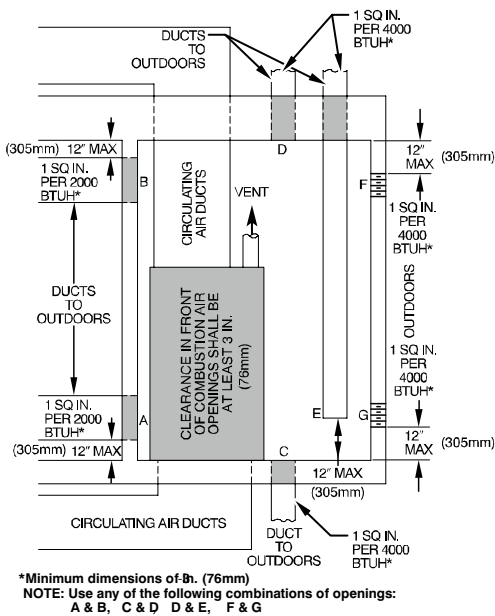

Fig. 6 – Air for Combustion, Ventilation, and Dilution for Outdoors
2. Fig. 6 illustrates how to provide TWO OUTDOOR OPENINGS, one inlet and one outlet combustion and ventilation air opening, to the outdoors.
- b. Size openings and ducts per Fig. 6 and Table 4.
- c. TWO HORIZONTAL DUCTS require 1 sq. in. (645 sq. mm) of free area per 2,000 BTU/h (1,100 mm²/kW) of combined input for all gas appliances in the space per Fig. 6 and Table 4.
- d. TWO OPENINGS OR VERTICAL DUCTS require 1 sq. in. (645 sq. mm) of free area per 4,000 BTU/h (550 mm²/kW) for combined input of all gas appliances in the space per Fig. 6 and Table 4.
- 1 sq. in. (645 sq. mm) of free area per 3,000 BTU/h (734 mm²/kW) for combined input of all gas appliances in the space per Fig. 6 and Table 4.